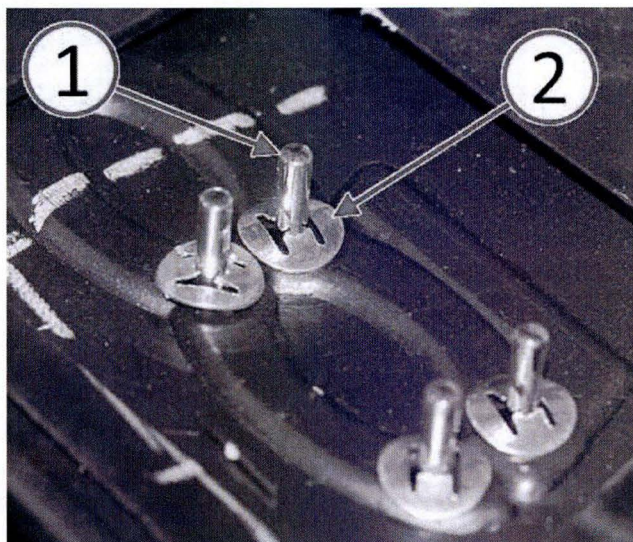

Fig. 8 Install Name Plate Fasteners
9. Secure the new "500" name plate to the instrument panel bezel with the four push nuts (2) (Fig. 8).